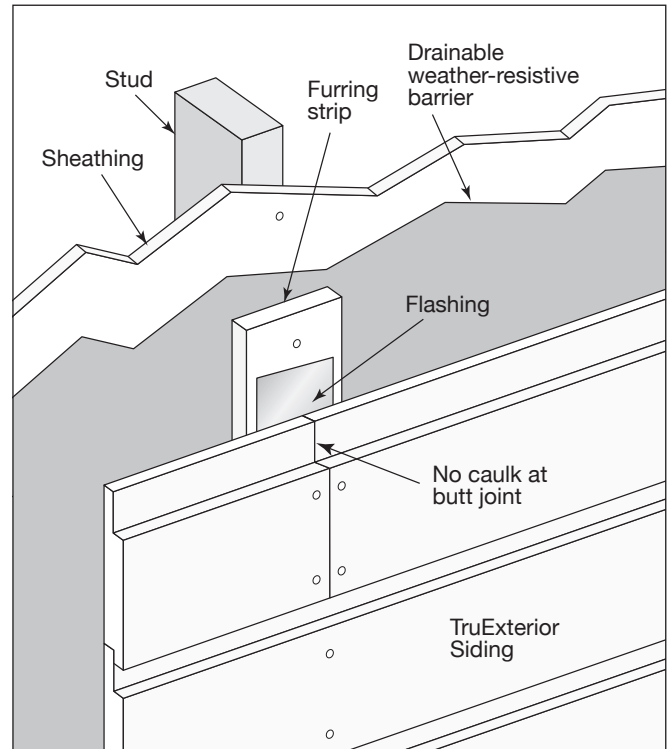

Fig. 54
- Make sure your nail gun is set to drive the nail head even with the surface of the siding, penetrating a nailable substrate at least 1-1/4" deep (**Fig. 54**)
- For 4", 6", and 8" profiles, 2 fasteners must be used through the face of the siding at each furring strip (**Fig. 54**)